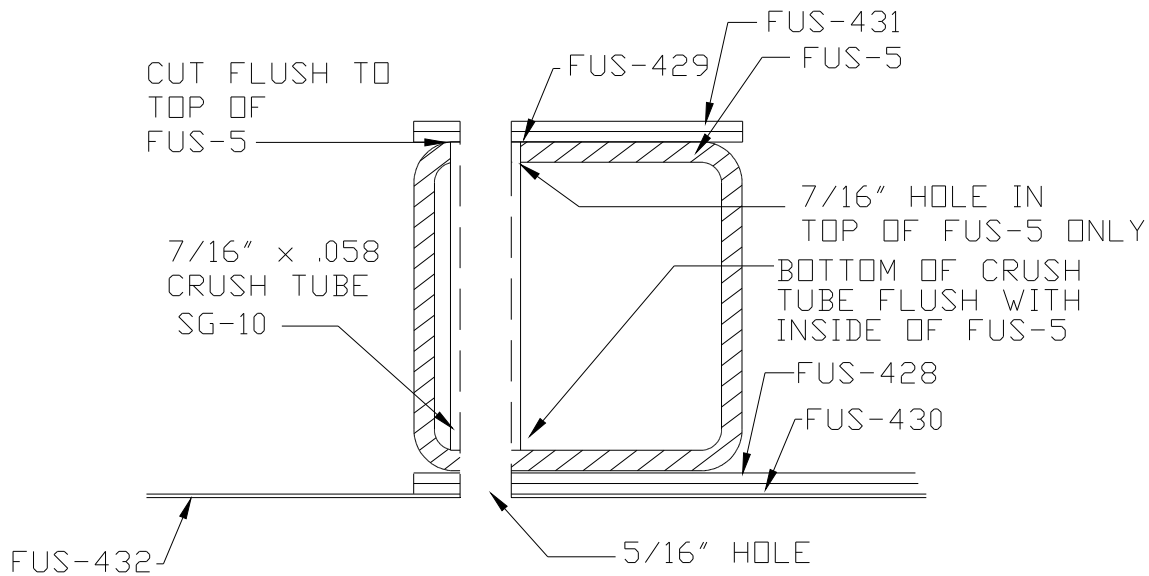

Fig.10.1.1
- 1) Drill the four outboard 5/16" holes through the top surface only of FUS-5 out to 7/16". Figure 10.1.1.